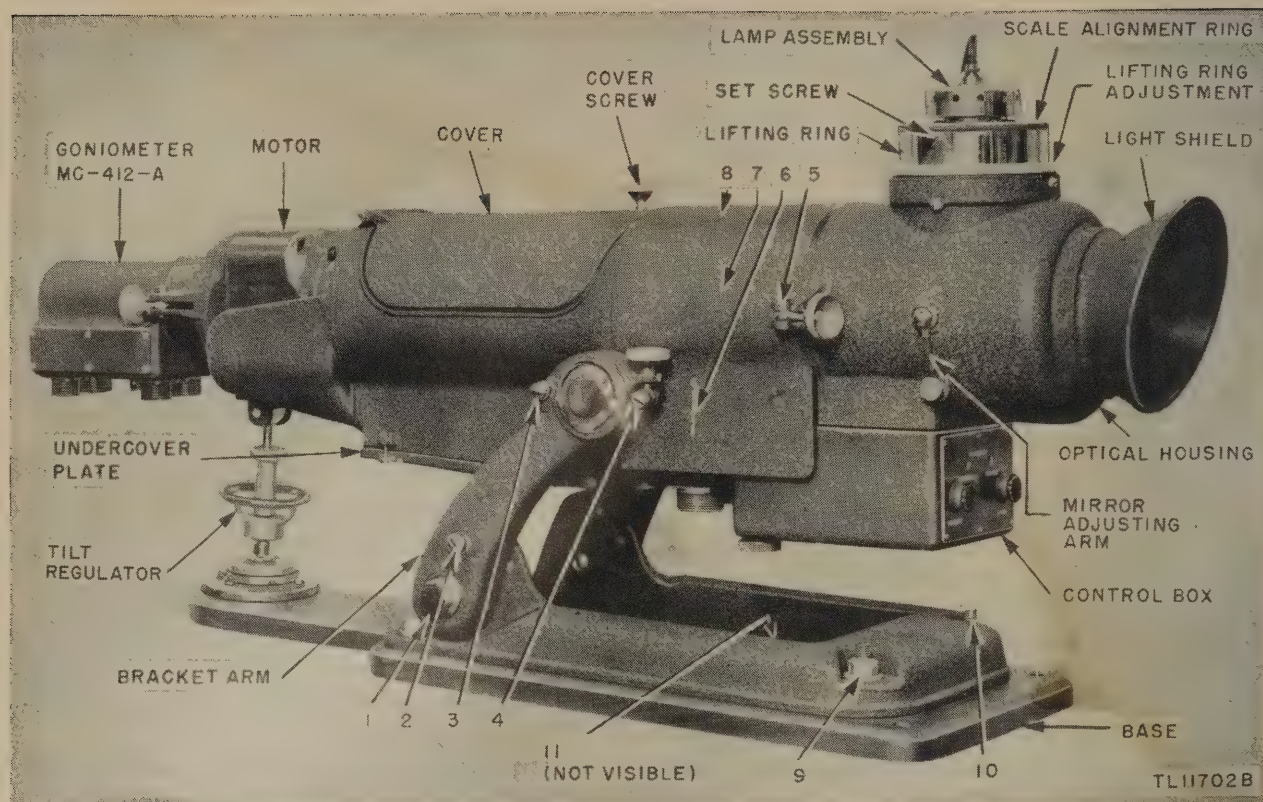

Figure 103. Bearing Indicator BC-1159-A, demagnetizing adjustments.
(5) If step (4) does not remove the magnetism, shift the demagnetizer back and forth between the front bearing housing and the seat for the top cover. Observe the pattern while snapping the demagnetizer on and off in each position.
(6) Recheck for magnetism by repeating (5) through (7) in *a* above.
*Note.* Demagnetization, steps (1) through (5), almost invariably will remove magnetism from the indicator. The steps that follow are difficult and rarely necessary. Use them only if the preceding steps fail to demagnetize the indicator.
(7) If the recheck of step (7) in *a* above shows that the circle is distorted (oval) enough to cause bearing errors, turn
the MOTOR switch to OFF and demagnetize each of the pins and studs indicated in figure 103. In the illustration, points 1 through 7 refer to corresponding pins and studs on both sides of the indicator. Points 6, 7, and 8 are just inside the indicator and cannot be reached unless the control box is removed. Point 5 refers to two items: the clamp pin on the left side of the indicator and the optical housing hinge pin on the right side of the indicator. Point 11 refers to the screws and clamps (not visible) that hold the lamp assembly during shipment. Test for magnetism and repeat this procedure, if necessary. Proceed to step (8) *only* if remaining magnetism interferes with bearing accuracy.
(8) With no power applied to the bearing indicator, swing back the optical housing and *carefully* remove the cathode-ray tube.
(9) Demagnetize the rotating assembly by using a twisting motion while in
- (1) Make certain that the optical housing is properly closed and tightened against the indicator frame.
- (2) Carefully readjust the alinement of the circular trace (par. 64).
- (3) With only the  $90^\circ$  antenna switch at ON, tune the receiver to the target transmitter and adjust for a twin-leaf pattern on the indicator.
- (4) Carefully adjust the lifting ring, so that the distance between the true azimuth scale and the mirror is correct as indicated by the elimination of parallax from the  $90^\circ - 270^\circ$  pattern.
- (5) Throw the  $90^\circ$  antenna switch to OFF and set the  $0^\circ$  switch to ON.
- (6) Adjust the mirror arm (fig. 103) so that the mirror angle is correct as indicated by the elimination of parallax from the  $0^\circ - 180^\circ$  pattern.
- (7) Repeat (2) through (6) above. Readjust the HORIZONTAL and VERTICAL POSITIONING controls whenever necessary to keep the pattern centered. Note that adjustment of the lifting ring changes the distance between the true azimuth scale and the mirror; adjustment of the mirror angle tilts the pattern to bring it into the same plane.
ing, adjust the azimuth scale alinement ring (fig. 103) to make the azimuth scale figures  $0^\circ$  and  $180^\circ$  vertical.